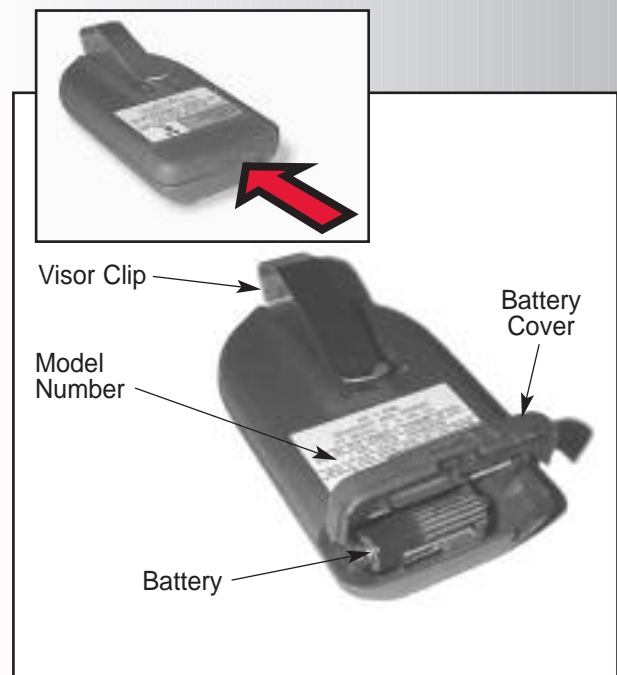

Fig. 8-1
1. Install/replace battery Fig. 8-1.